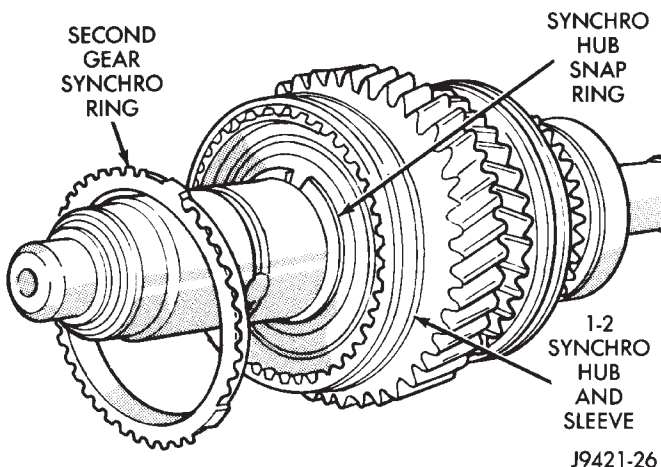

Fig. 42 Second Gear Synchro Ring Removal
(7) Remove second gear synchro ring (Fig. 42). Then remove the 1-2 synchro hub snap ring.